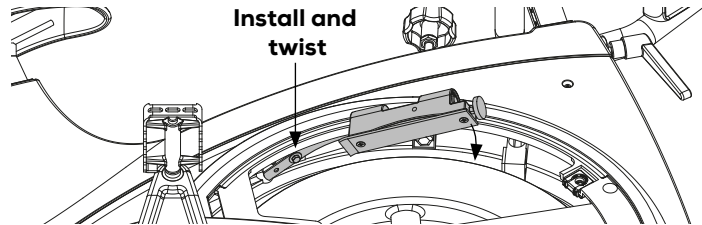

Figure 22
- 4) Take the new brake block and fasten it to the frame by tightening the screw closest to the brake block. Then place the block in the correct position under the brake (see figure 22).